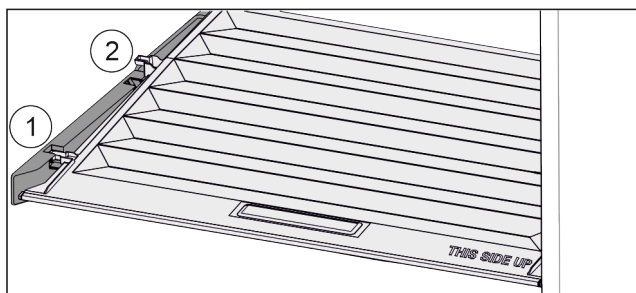

Fig. 45
- ▶ Pull the lid up at the front in the retaining parts to the opening Fig. 45 (1).
- ▶ Lift from the back and pull it up and out Fig. 45 (2).